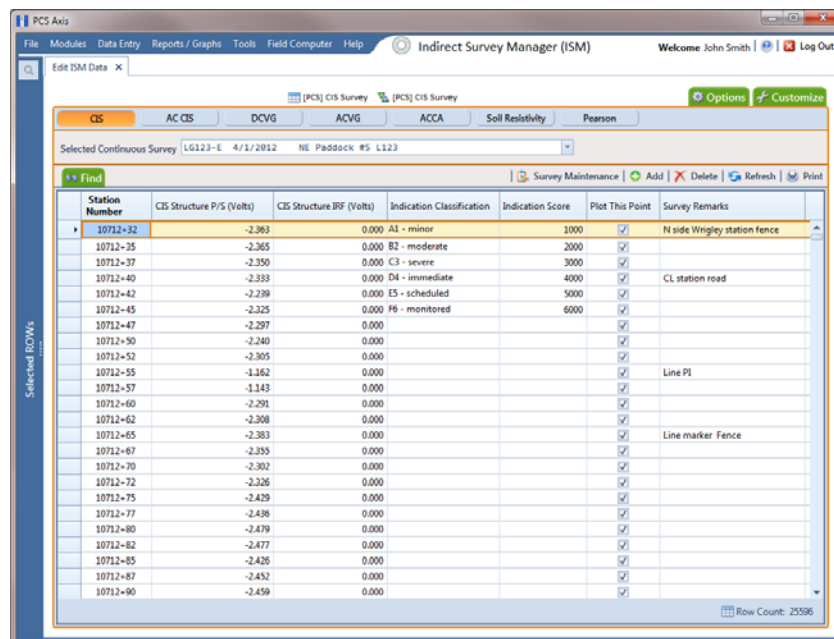

Figure 7-61. Edit ISM Data
- 3 Open the ISM data entry grid. Click **Data Entry > Edit ISM Data**. Then click a button labeled with the type of continuous survey you want to work with, such as the **CIS** button  (Figure 7-61).